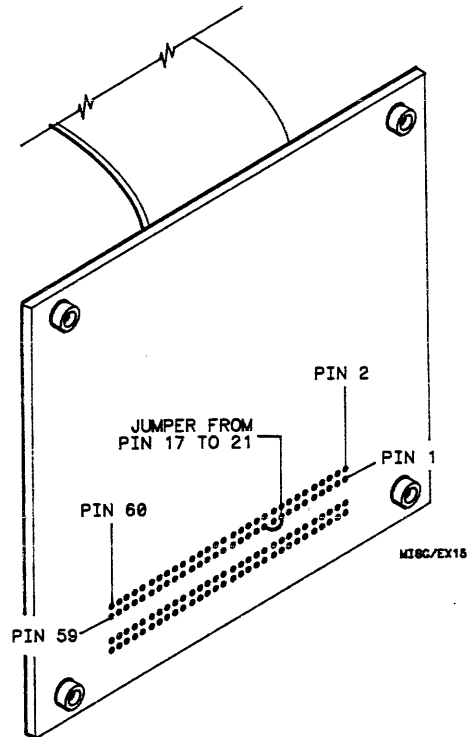

Figure C-2. Circuit Side of the PC Board
- Solder a jumper from pin 17 of J3 to pin 21 of J3. Figure C-2 shows the location of the jumper on connector J3 from the circuit side of the PC board.